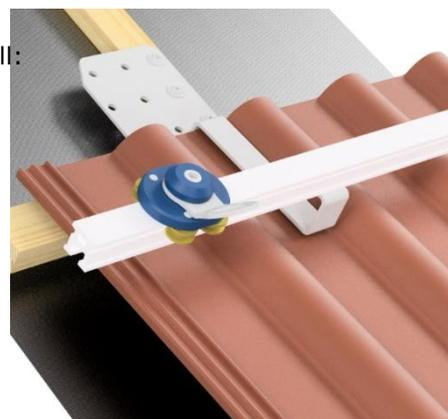

Fig. 1
a) Bracket **SD-Z II** (tiled roof): see fig. 1